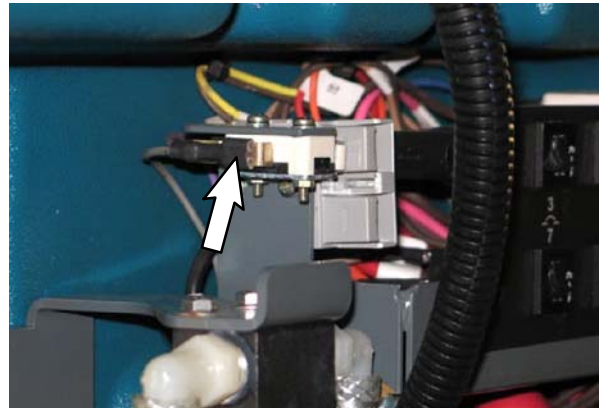
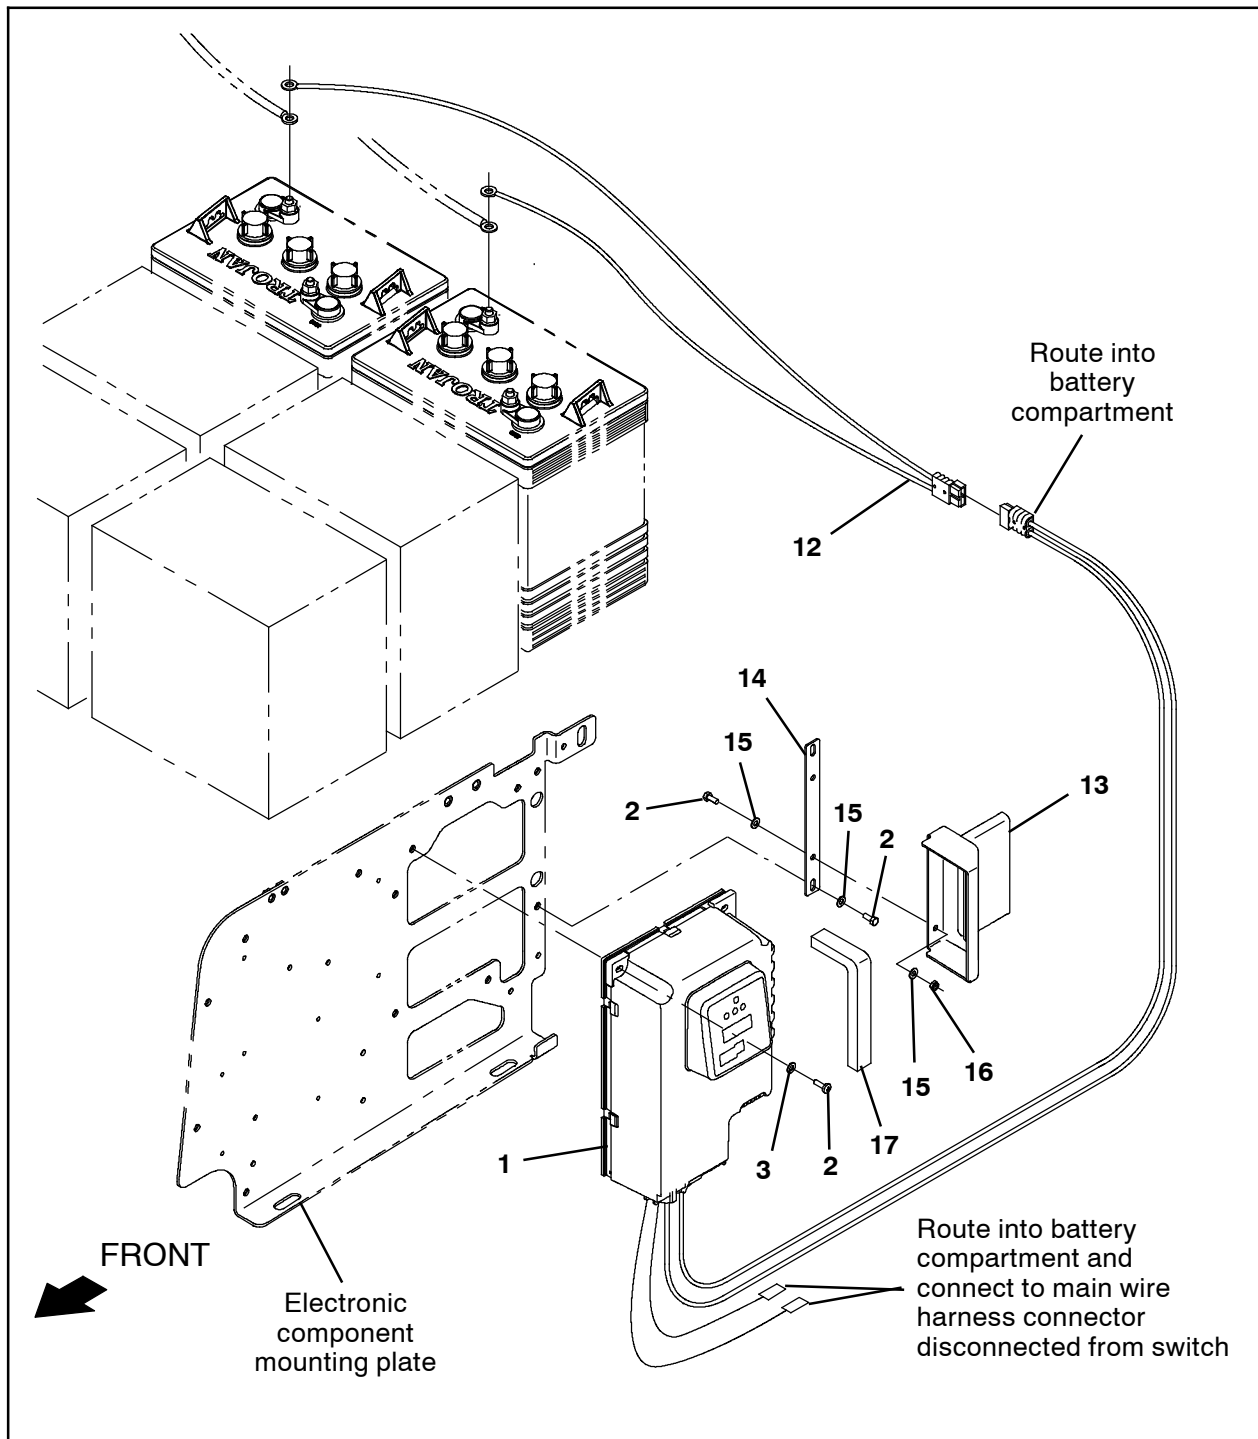

FIG. 2
FIG. 3
3. Use three M5 pan screws (2) and three flat washers (3) to install the charger (1) onto the electronic component mounting plate. (Fig. 3)
4. Remove the backing from the foam seal (17) and install the foam seal into the heat outlet duct (13). (Fig. 3)
5. Use two M5 hex screws (2), four flat washers (15), and two M5 hex nuts (16) to install the heat duct mounting plate (14) onto the heat outlet duct (13). (Fig. 3)
6. Use two M5 hex screws (2) and two flat washers (15) to install the items assembled in the previous several steps onto the electronic component mounting plate. (Fig. 3)
7. Route the charger (1) wires and cable up into the battery compartment. (Fig. 3)
8. Disconnect the main wire harness from the snap switch installed on the electrical plate located behind the operator seat. (Fig. 2)
9. Remove the snap switch from the electrical plate. Discard the snap switch and mounting hardware. (Fig. 2)
10. Connect the charger (1) wires to the wires disconnected from the snap switch. (Fig. 2 / Fig. 3)
11. Connect the cable assembly (12) to the batteries. (Fig. 3)
12. Connect the cable assembly (12) to the charger (1) cable. (Fig. 3)